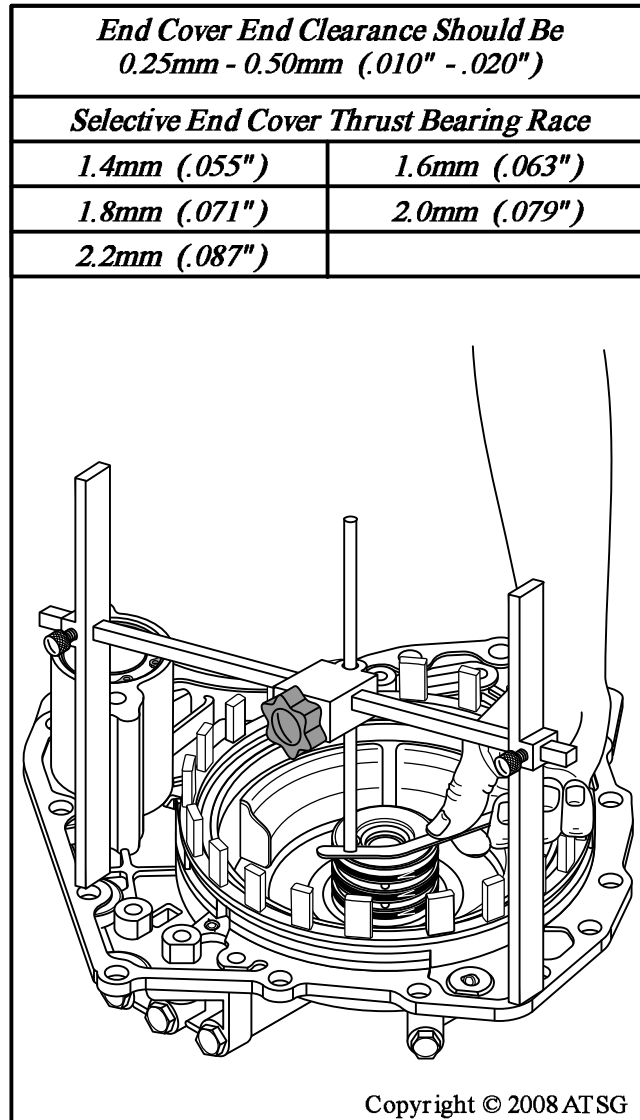

Figure 210
44. Turn the "H" Gage over with previous setting and set it on end cover, as shown in Figure 210.
45. Measure the clearance between the adjusting rod and the selective thrust bearing race, as shown in Figure 210.
46. Change the selective thrust bearing race using the chart in Figure 210.